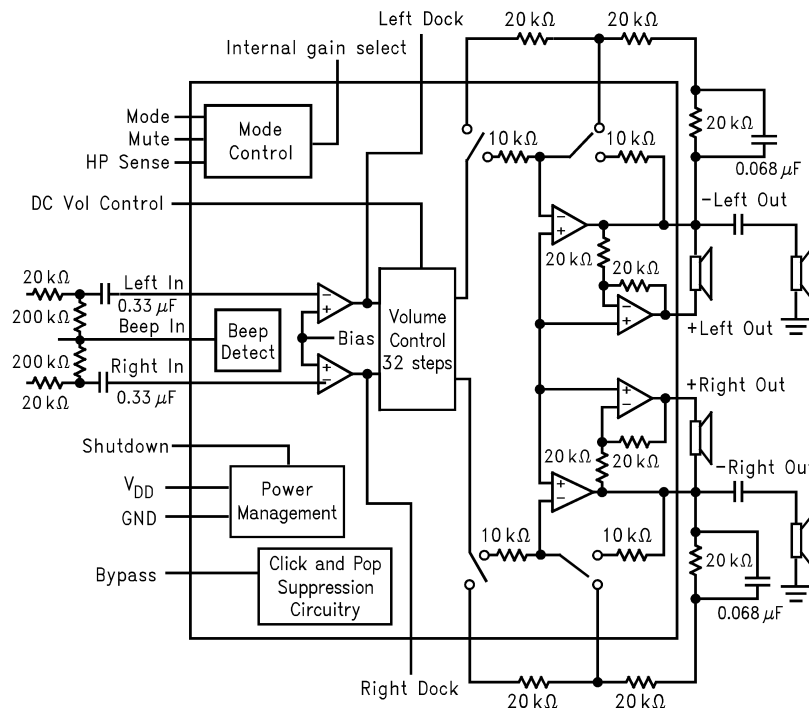

Figure 1. LM4838 Block Diagram
- All voltages are measured with respect to the ground pins, unless otherwise specified. All specifications are tested using the typical application as shown in Figure 1.